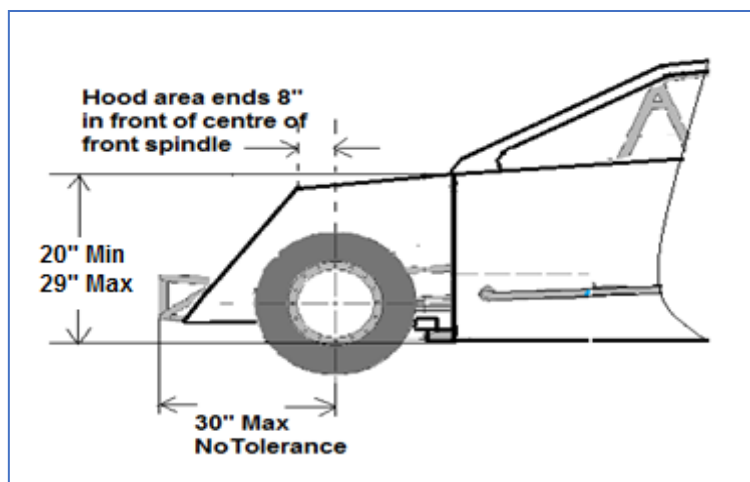

Figure 5
- **Hood** means the front section of the car body that extends from the front of the windscreen to 8” in front of the front ball joint (Figure 5).
- **Nose** means the front section of the car body that extends from the front of the hood to the front bumper (Figure 5).
8.1. Hood height (excluding air filter and protector) must not exceed 20" min or 29" max. A vertical measurement is taken from the bottom of the lowest point frame rail to the top of the hood (*Figure 5*).
8.8 Front of bumper may not extend more than 30 inches forward of spindle centre. Measurements to be taken from centre of either front spindle to the outside of front bumper (*Figure 5*).